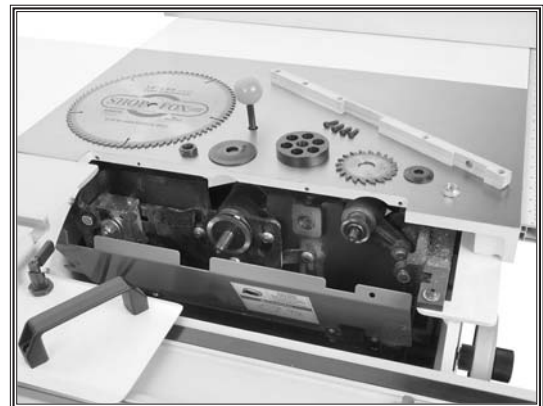

Figure 60. Existing insert removed.
3. Remove the main blade and the mounting spacer behind it (see **Figure 60**).